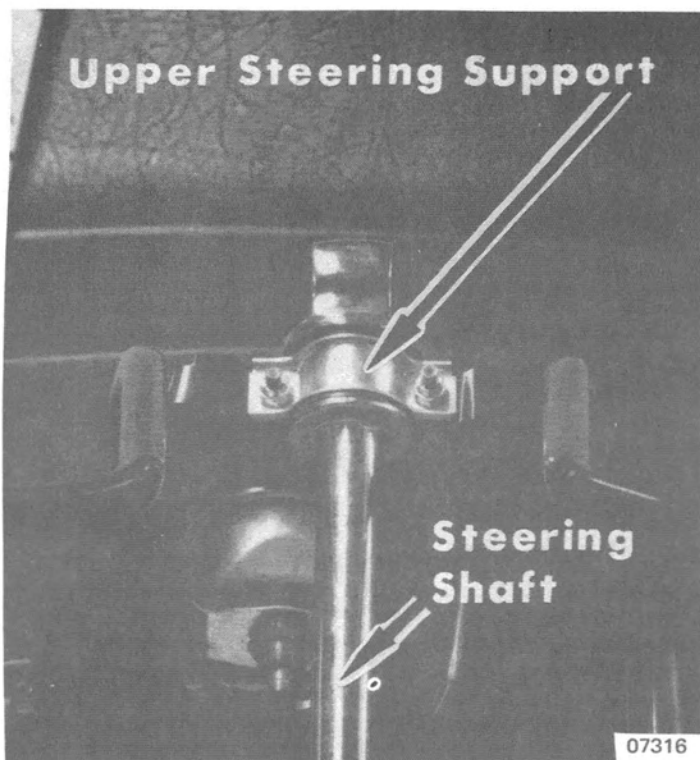

Figure 2. Upper Steering Support
6. Remove 2 nuts from upper steering shaft support bracket. Remove bracket, bushings and steering shaft. (Figure 2)